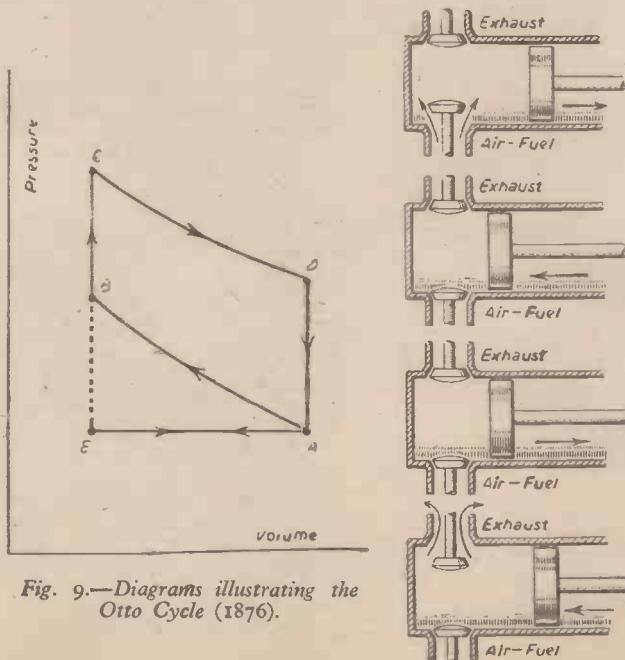

Fig. 9.—Diagrams illustrating the Otto Cycle (1876).
Fig. 9 shows the idealised Otto cycle (1876), in which gas-air or petrol-air mixtures are used as working substances. A suction stroke (EA) fills the cylinder with the air-fuel mixture which is compressed adiabatically by the return stroke (AB). The passing of a spark causes ignition and a sudden rise in pressure (BC), after which the hot gases of combustion expand adiabatically in a power stroke (CD).